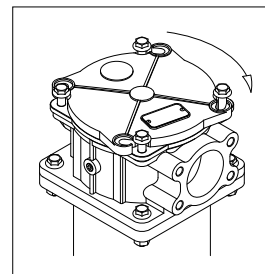

fig. 4
- (Fig. 4) Press and at the same time rotate the cover clockwise until the heads of the screws match the recesses